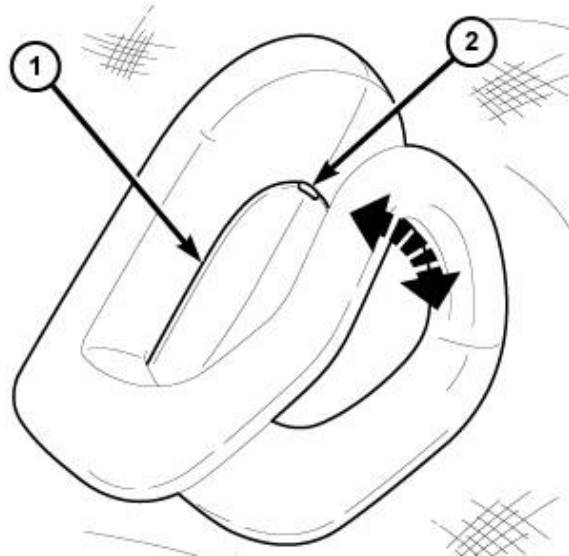

Figure 42 – Coat Hook
- Using a small flat bladed tool, open the coat hook screw cover (2) then remove the screw and coat hook (Figure 42).
46. Position the coat hooks (5) onto the headliner and install the screws tightening securely into the mounting clips then close the screw cap fully (Figure 42).